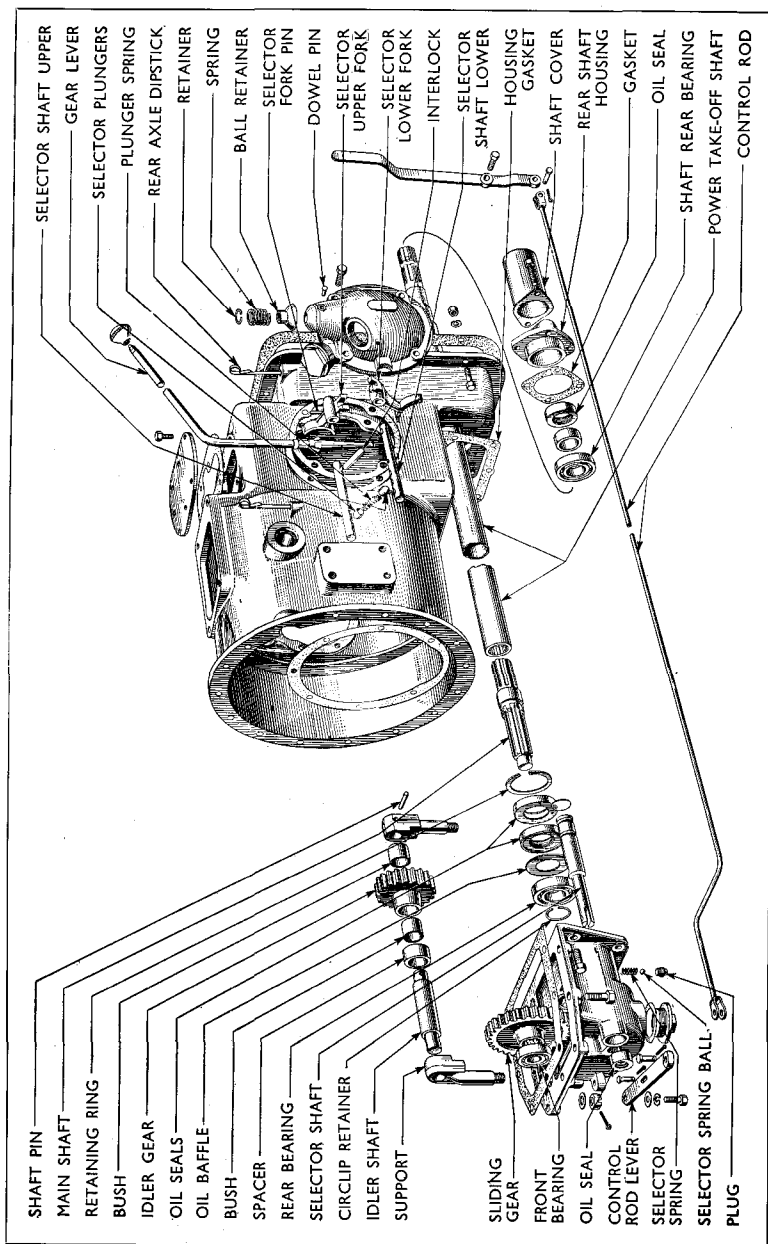

Figure 71
Punch out the pin in each selector fork, when the shafts are free to be pressed out of the housing. Take care not to lose the plungers, springs or interlock. See Fig. 71.
Then unscrew the bolts of the power take-off shaft housing and pull the shaft rearwards clear of the splines. Disconnect the control rod from the lever and undo the bolts (5) in the vertical flange and 7 in the horizontal flange, when the power take-off unit may be withdrawn from the gearbox. See Fig. 71.